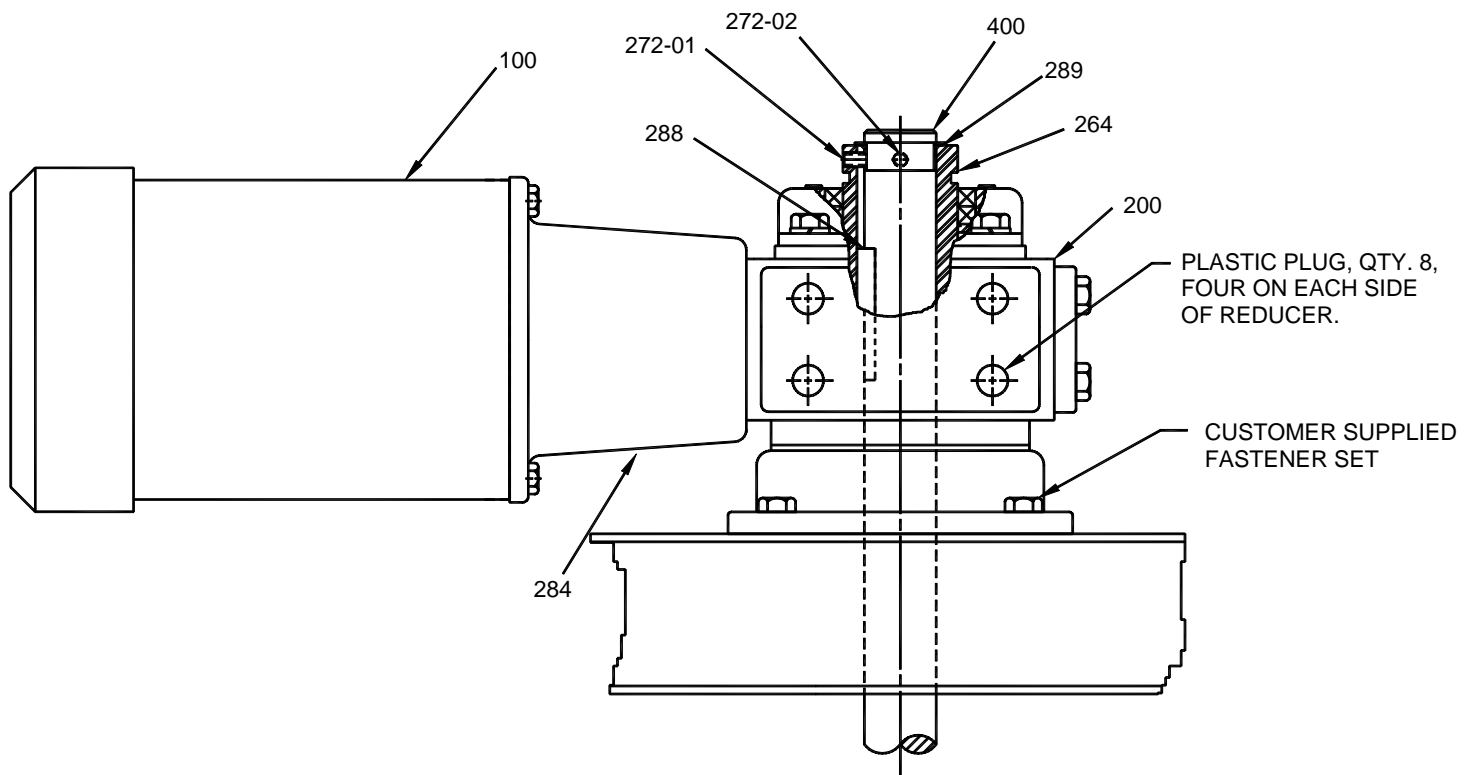

Figure 2: Extension Shaft Installation
2. Mount the motor/reducer drive assembly to support structure using customer supplied fastener set (3/8" bolts). Refer to *Figure 2, page 6*.
5. Install snap ring [289] over shaft end and slide into groove on extension shaft. Lower shaft until snap ring rests on top collar of reducer slow speed shaft [264]. Install and tighten setscrews [272]. Refer to *Figure 2*.